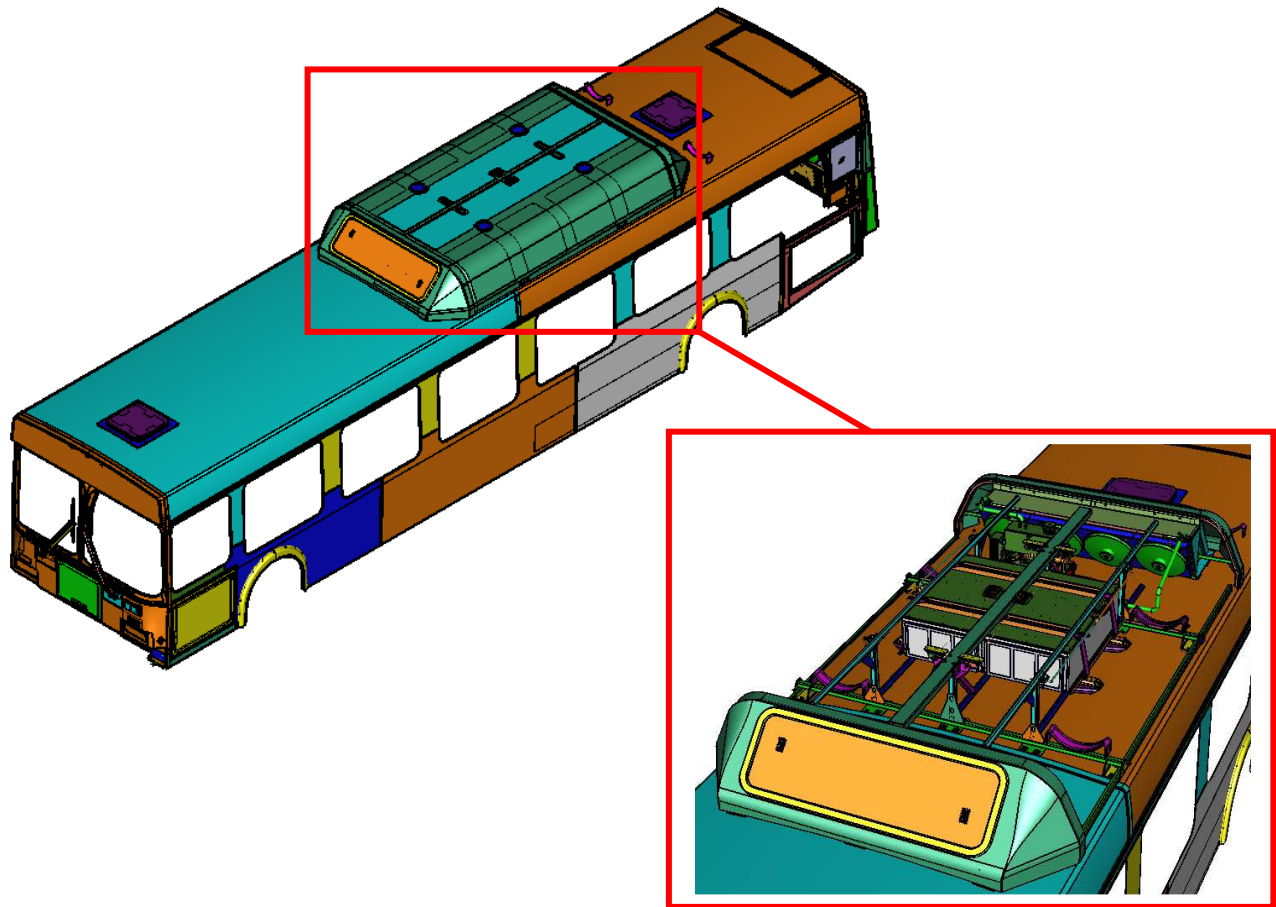

Fig 1 – Legacy UCAP Location (doors removed for clarity)
- a. Open the clam shell doors on top of the bus to access the UCAP assembly. See Fig 1